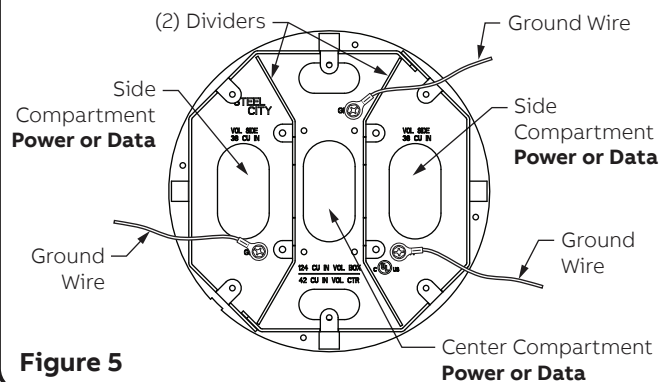

Figure 5
4.2 Select from (4) possible junction Box configurations: See Figures 5, 6, 7, and 8. **NOTE:** There are (3) (12 AWG) ground wires in the Junction Box. Leave the ground wires in place. If 30A - 10 AWG or 50A - 6 AWG device is used, see Step 5.0 Angled center side devices.